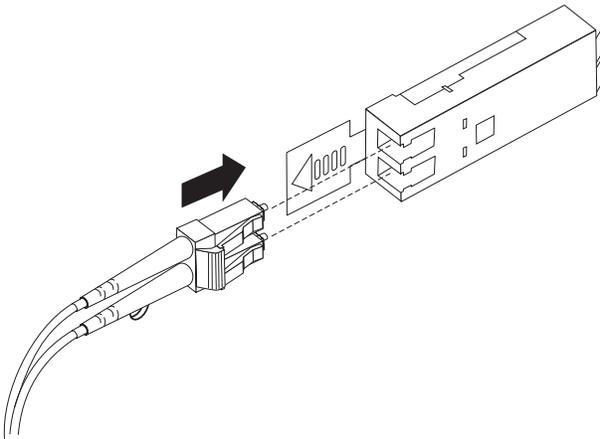

Figure 32. Inserting an LC-LC Fibre Channel cable into an SFP module
- Carefully insert this end of the LC-LC cable into an SFP module that is installed in the DCS3700. The cable connector is keyed to ensure it is inserted into the SFP module correctly. Holding the connector, push in the cable until it clicks into place, as shown in Figure 32.